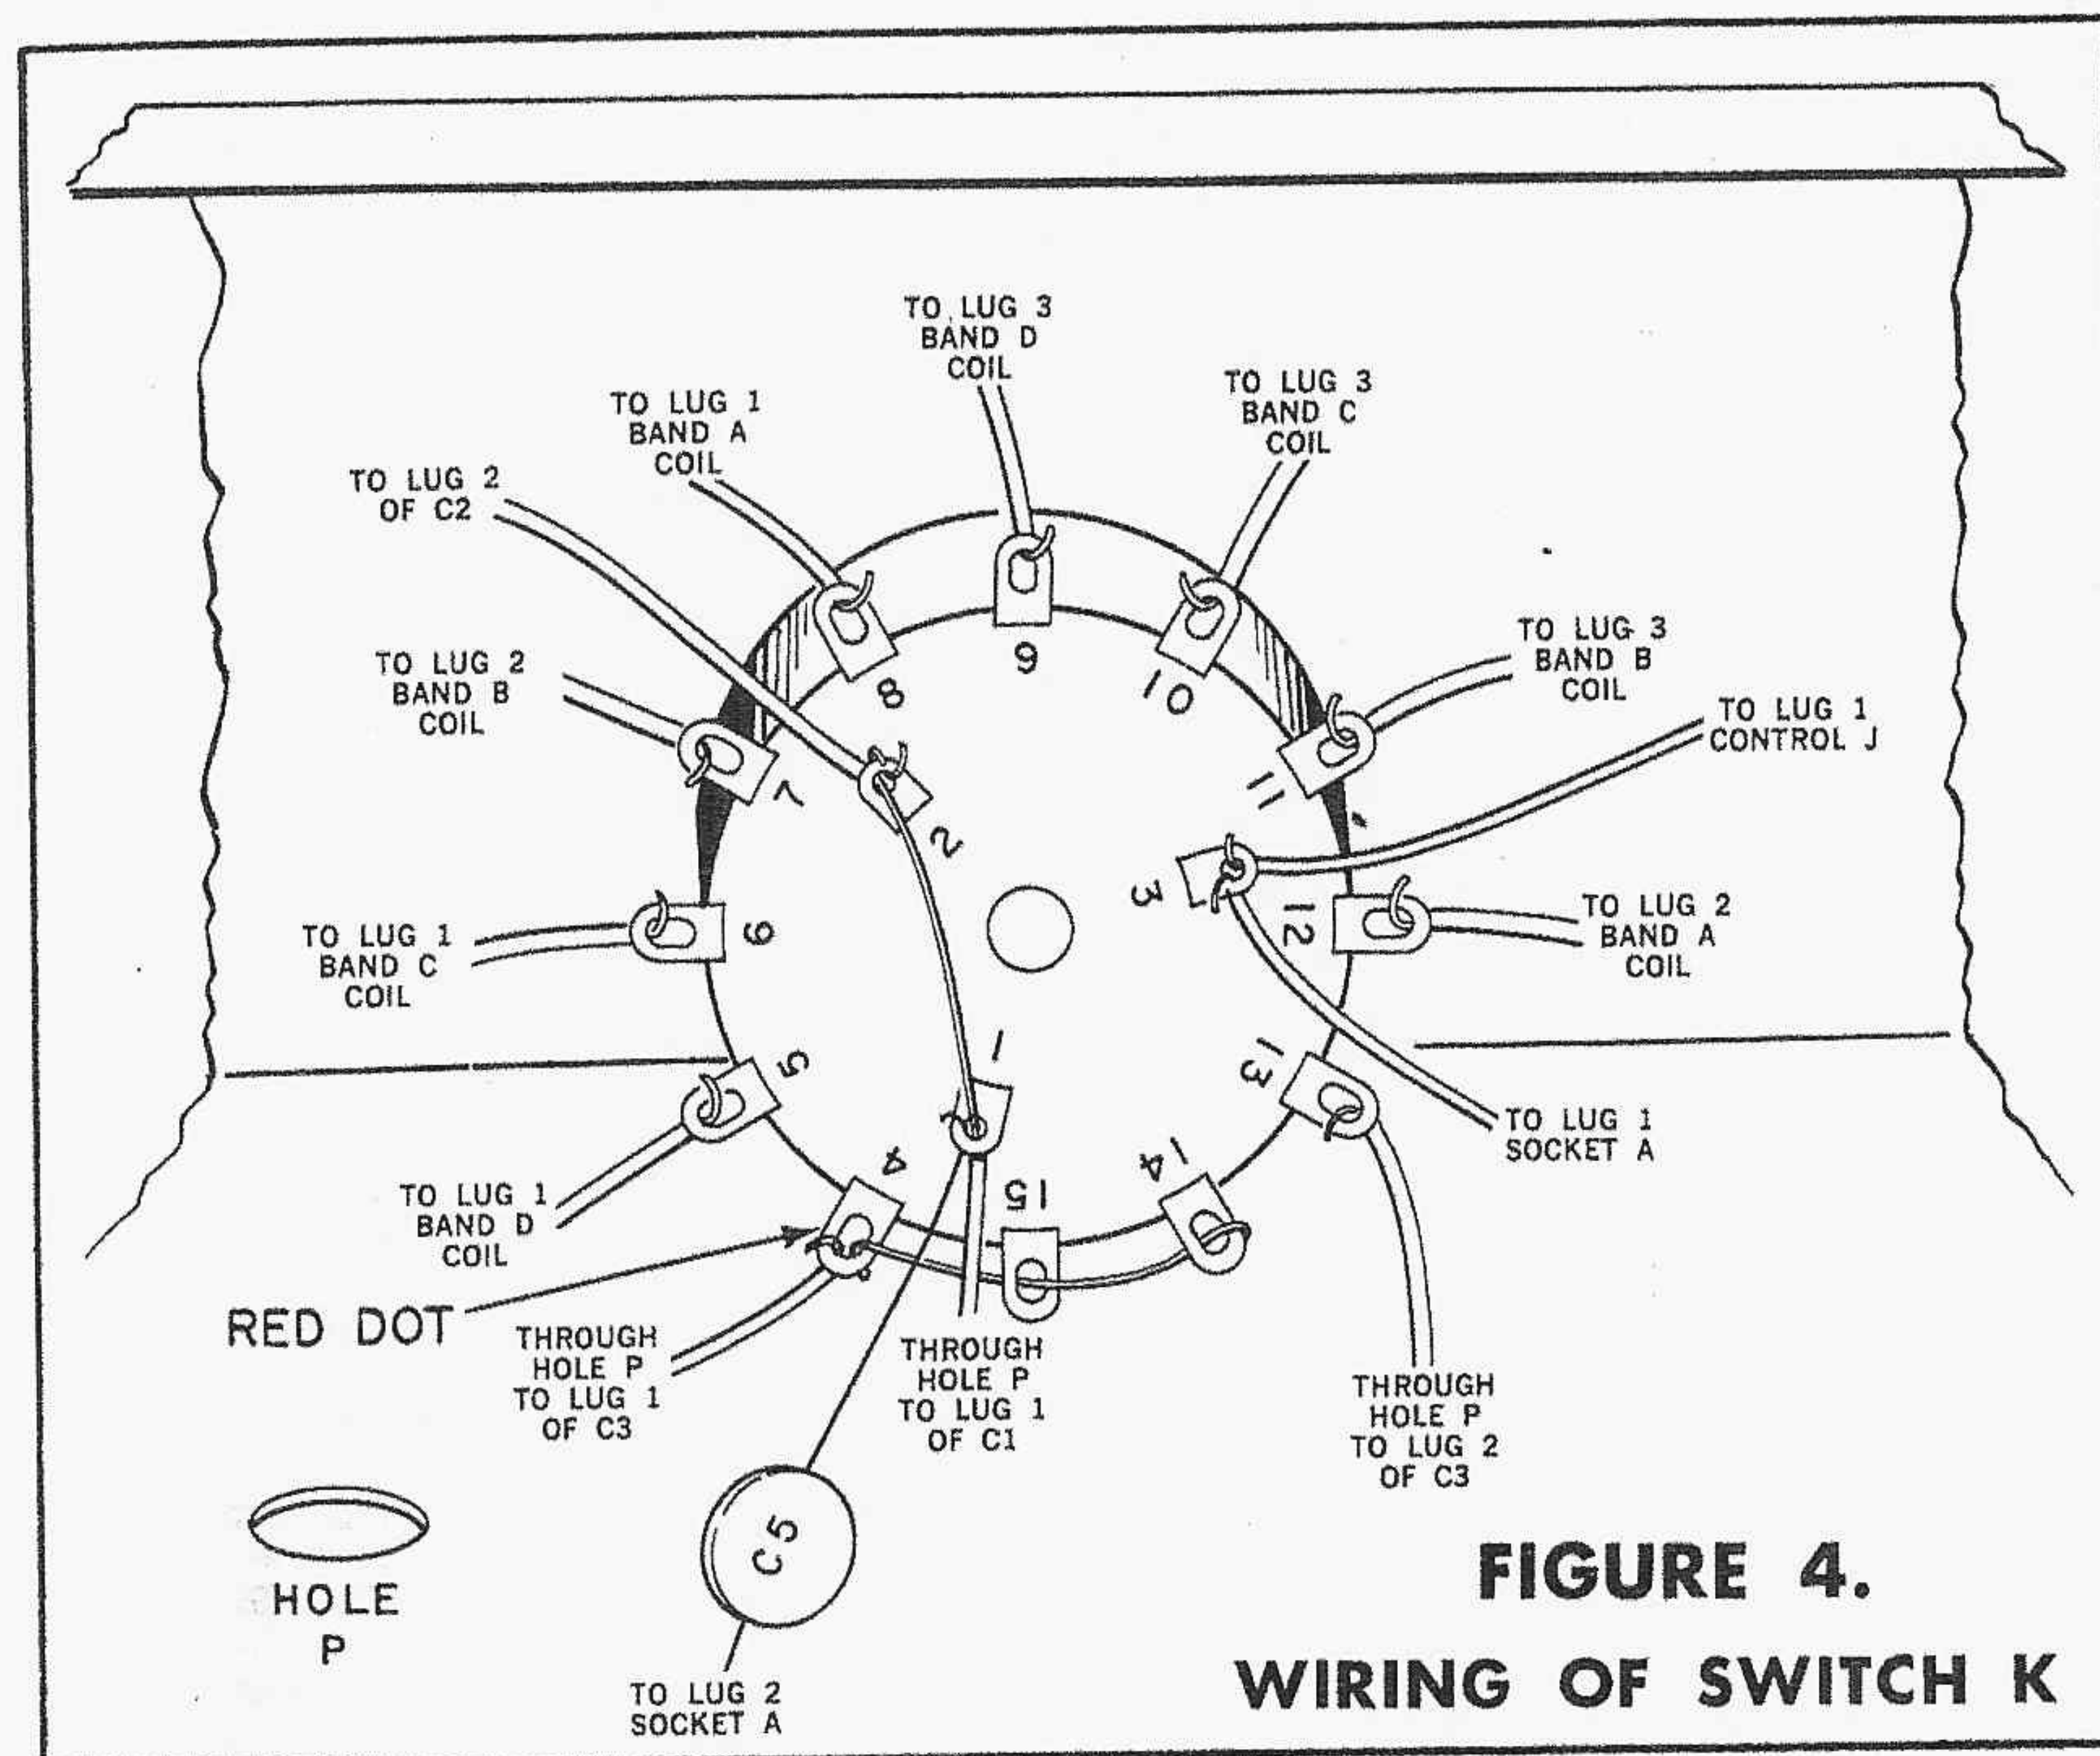

FIGURE 4.
41. () Connect a 4" length of black wire from lug 1 on "Band B" coil (NS) to lug 2 on "Band C" coil (NS).
42. () Connect a 1 1/2" length of black wire from lug 2 on "Band C" coil (S) to lug 2 on "Band D" coil (S).
43. () Connect a 3 3/4" length of black wire from lug 1 on control H (S) to lug 3 on terminal post AA (NS).
44. () Connect a 2" length of black wire from lug 5 on control H (S) to lug 3 on terminal post AA (NS).
45. () Cut one of the red leads of the 30-30-30 μ f 150V electrolytic capacitor C4 to 4 1/2" length, and connect to lug 2 on terminal post AA (NS).
46. () Cut the black lead of C4 to 7 3/4" length, and connect to lug 3 on terminal post AA (NS).
47. () Cut one of the other red leads of C4 to 4" length, and connect to lug 1 on terminal post AA (NS).
48. () Cut the remaining red lead of C4 to 2 3/4" length, and connect to pin 7 of socket B (NS).
49. () Cut a 14" length of green and a 14" length of black wire. Twist the wires together to form a twisted pair. Connect one end of the green wire to headphone jack D, lug 2 (S). Connect the adjacent end of the black wire to jack D, lug 3 (S). Feed the twisted pair through hole M and leave the other ends temporarily disconnected.
50. () Connect a 4 1/2" length of green wire from lug 1 on terminal post FF2 (NS) to lug 1 on antenna tuning capacitor C2 (S).
51. () Cut a 7" length of green wire. Remove 1" of insulation from one end and 1/4" from the other. Feed the wire through hole P from the top of the chassis, with the 1" stripped end going underneath the chassis. Run this end through switch K lug 1 (NS), and connect it to switch K lug 2 (NS), as shown in Figure 4. Leave the end above the chassis temporarily disconnected.
Observe Figure 4 as well as Pictorial 5 when wiring switch K.